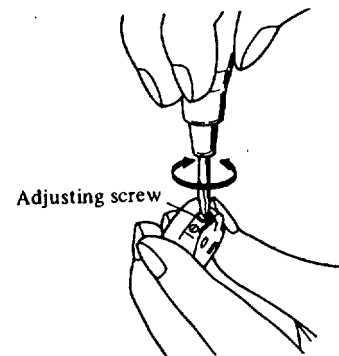

Figure 2-44. Bobbin Thread Tension, Adjustment.
(2) Bobbin thread tension (Refer to Figure 2-44).